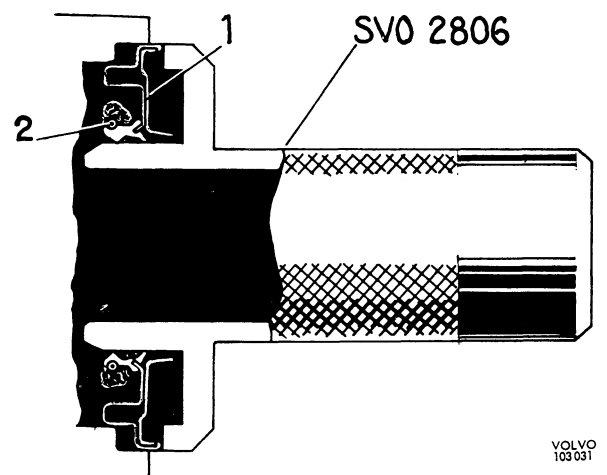

Fig. 4-133. Fitting oil seal
3. Coat the seal lips of the new ring with grease. Lubricate also the spring coil so that it does not jump off during fitting. Then fit the oil seal with SVO 2806, see Fig. 4-133.